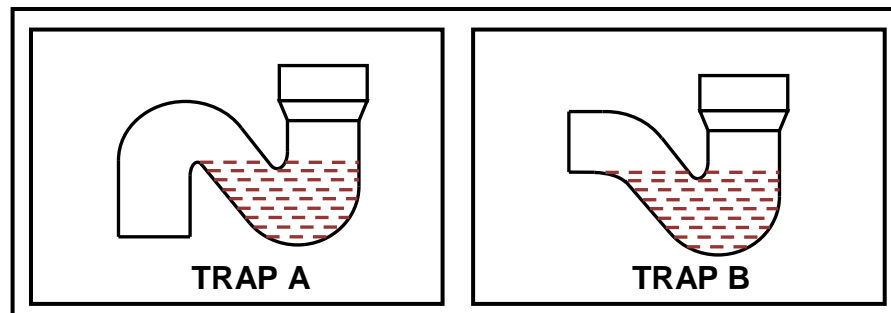

FIGURE 6.2
- (1)
- 6.2 FIGURE 6.2 below shows drawings of TWO different water traps found in a sewerage system.
- 6.2.2 Explain the function of the water at the base of EACH of the fittings in FIGURE 6.2. (1)